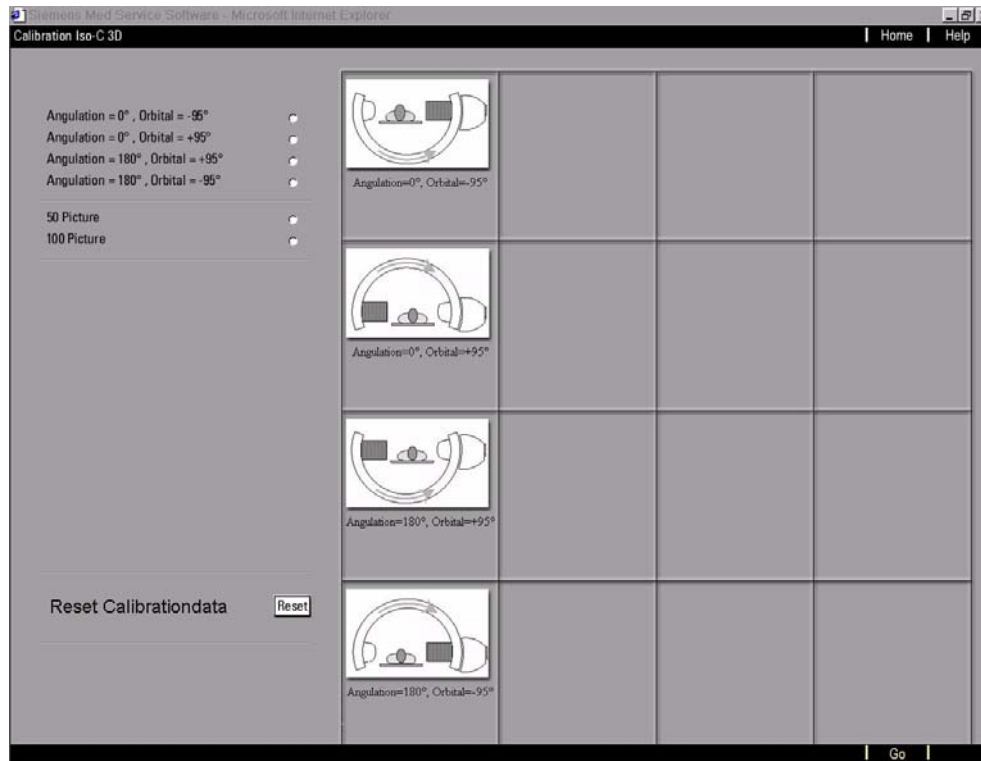

Fig. 6
- ⇒ The following window appears (Fig. 6).